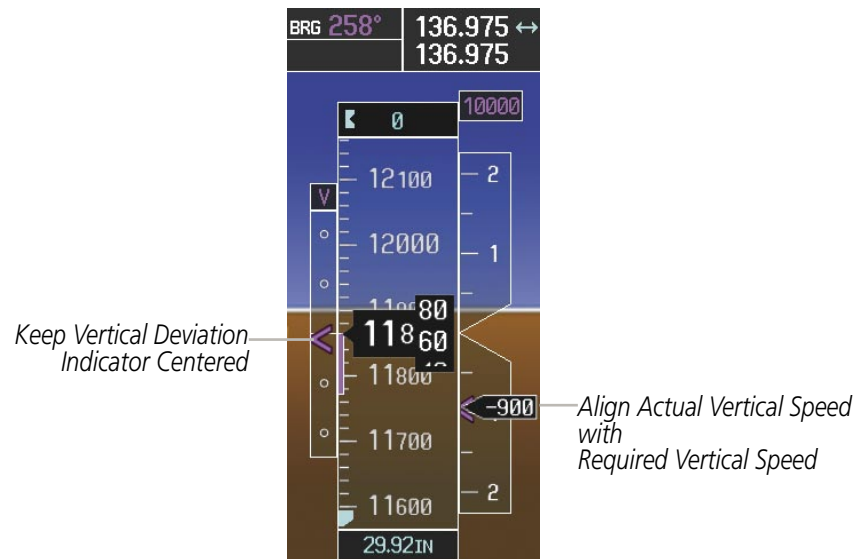

Figure 5-127 VDI & RVSI Showing Correctly Established Descent
- 16) Upon reaching TOD, a descent vertical speed is established which places the VSI pointer in line with the RVSI as shown in Figure 5-127.